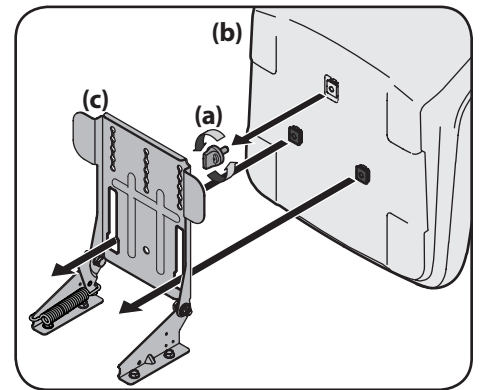

Figure 2-5
1. Remove the seat adjustment knob (a) from the bottom of the seat (b). See Figure 2-5.
2. Align the seat (b) over the seat pivot bracket (c) as shown in Figure 2-5 and fit the seat (b) onto the seat pivot bracket (c) inserting the two tabs on the seat (b) bottom into the slots on the seat pivot bracket (c).